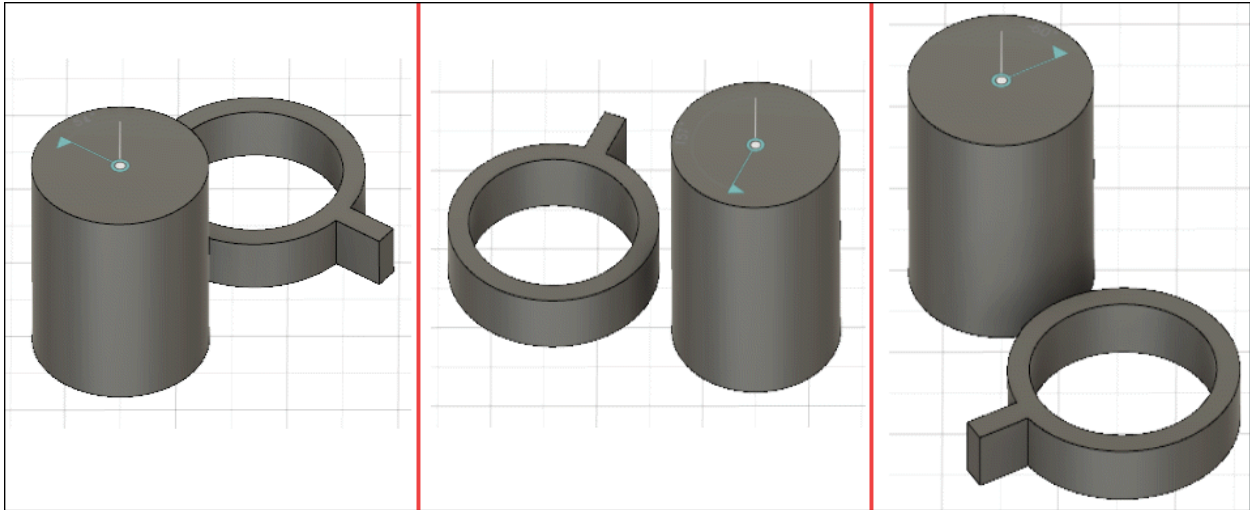

Figure-25. Rotation of component
- The drag handle will be displayed. Rotate the component as required; refer to Figure-25.